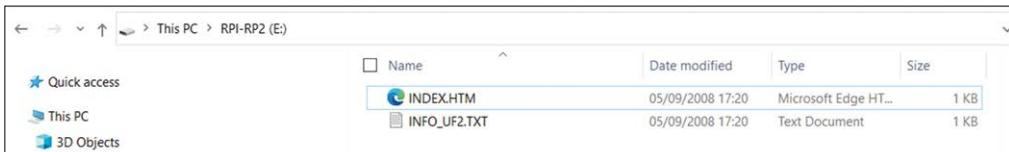

Figure 2.16: You will see two files.
- Click on drive RPI-RP2. You will see two files with the names **INDEX.HTM** and **INFO_UF2.TXT** (see Figure 2.16).